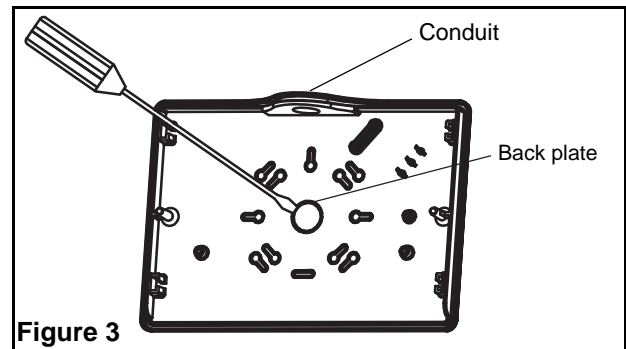

Figure 3
1. Open front cover and remove the 1/2 inch NPT plug on the top flange of the fixture (see figure 3).